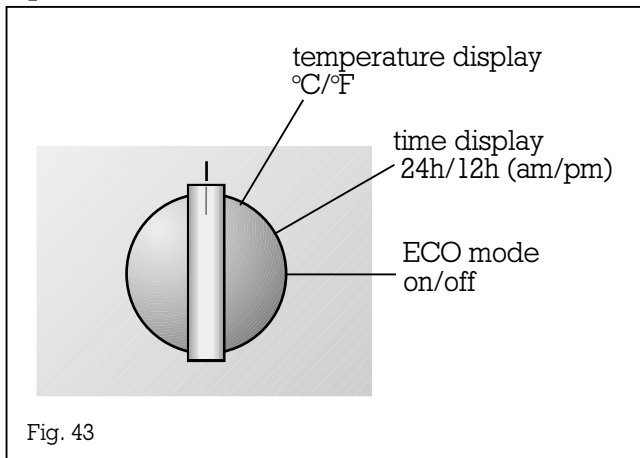

Fig. 43
- By turning the "Modes" control knob, you can now choose the various functions (Fig. 43):